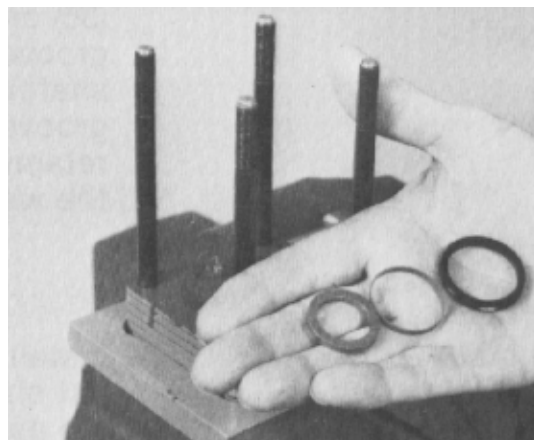

Figure 89
9. Assemble the seal backup ring and face seal onto the seal spacer (Fig. 89).